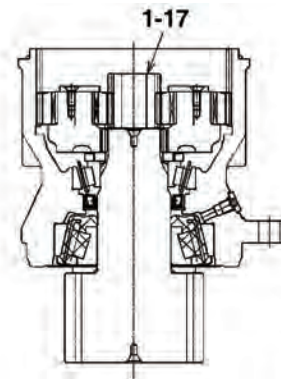

Figure 38
2. Remove sun gear (1-17, Figure 38).